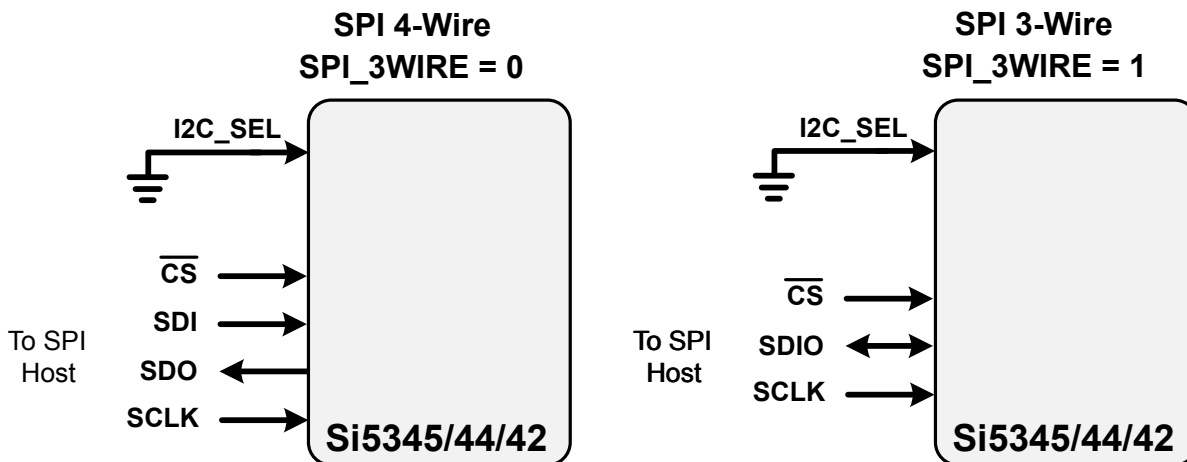

Figure 9.6. SPI Interface Connections
Data is transferred MSB first in 8-bit words as specified by the I²C specification. A write command consists of a 7-bit device (slave) address + a write bit, an 8-bit register address, and 8 bits of data as shown in Figure 9.6 SPI Interface Connections on page 53. A write burst operation is also shown where subsequent data words are written using to an auto-incremented address.
When in SPI mode, the serial interface operates in 4-wire or 3-wire depending on the state of the SPI_3WIRE configuration bit. The 4-wire interface consists of a clock input (SCLK), a chip select input (CS), serial data input (SDI), and serial data output (SDO). The 3-wire interface combines the SDI and SDO signals into a single bidirectional data pin (SDIO). Both 4-wire and 3-wire interface connections are shown in Figure 9.6 SPI Interface Connections on page 53.